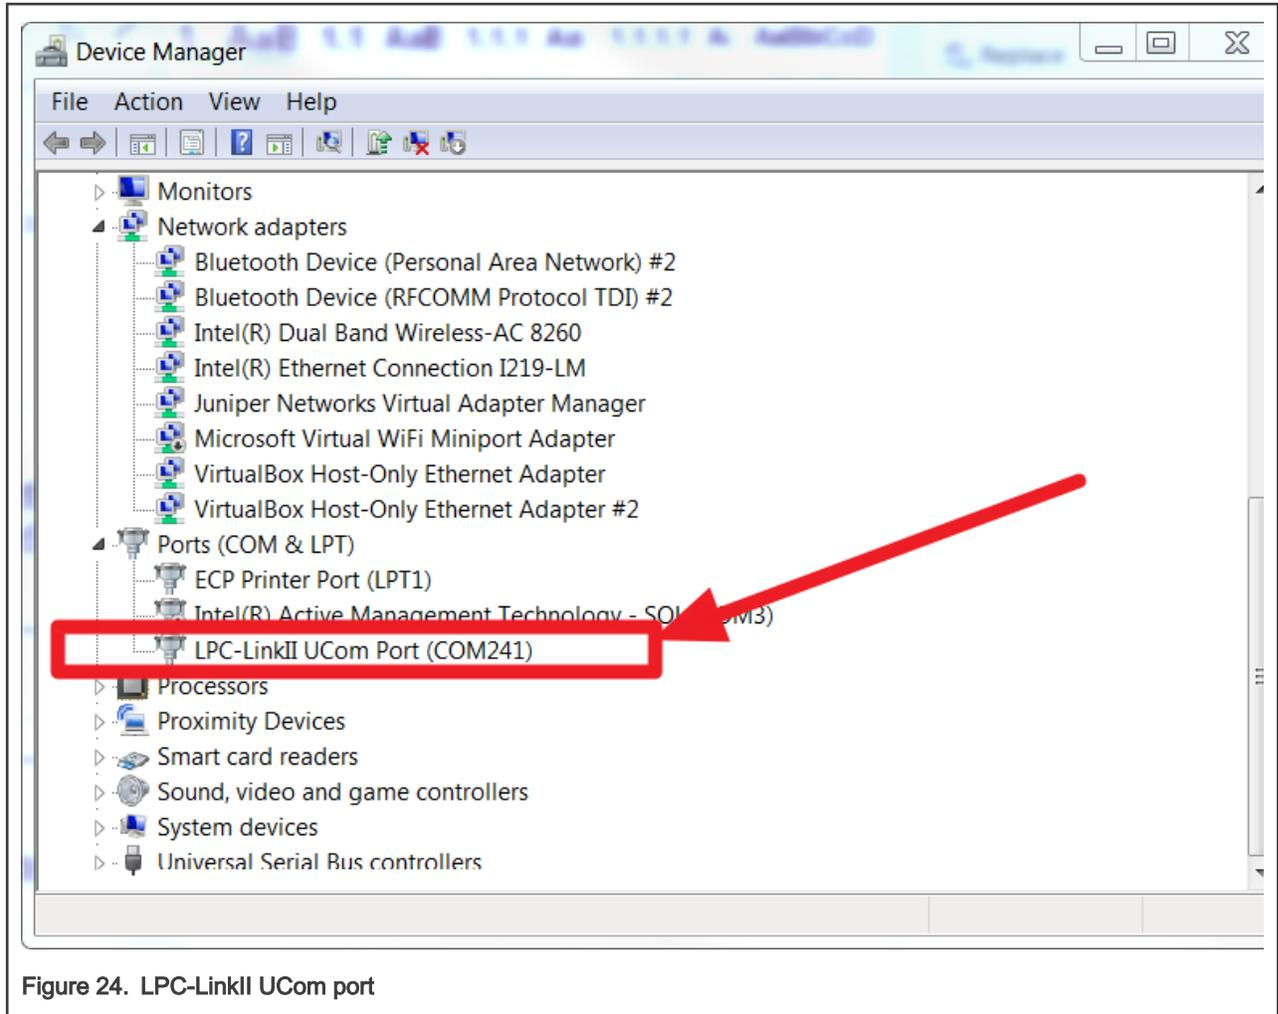

Figure 24. LPC-LinkII UCom port
2. PC recognizes the LPC-Link2 debugger with a Simulate Serial Port, as shown in Figure 24.